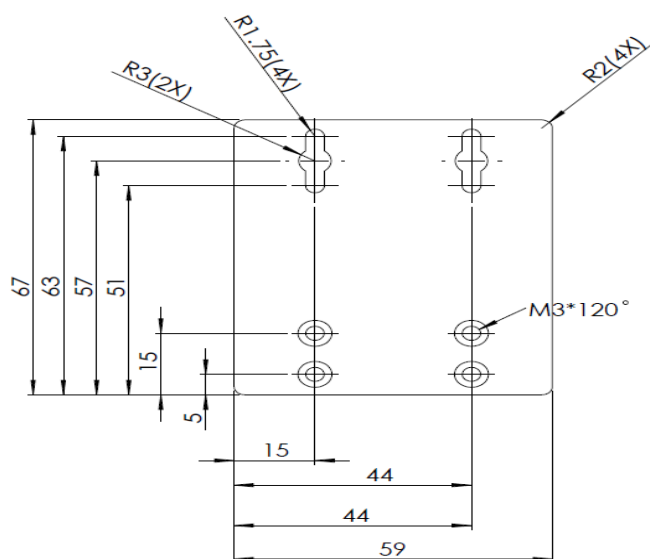

Figure 3.5 – Wall Mounting Bracket Dimensions
*Figure 3.5* below has the dimensions for the wall mounting bracket.